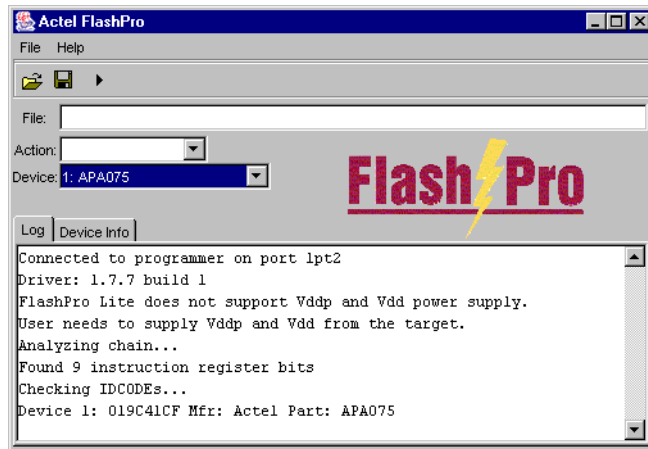

Figure 3-3. FlashPro: Analyzing Chain
1. **From the *File* menu, click *Analyze Chain*.** Chain details appear in the Log window, as shown in Figure 3-3. If you encounter any failures,